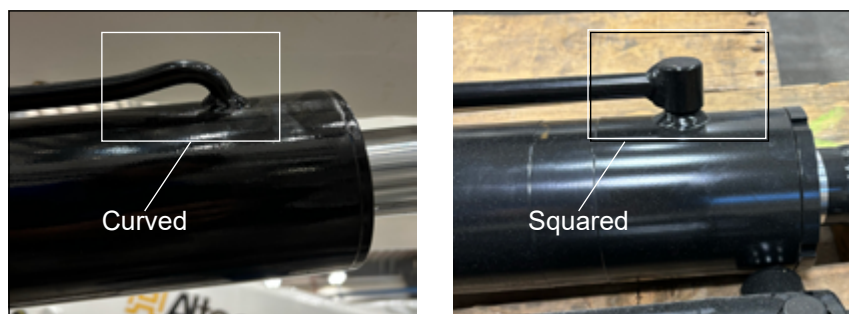

Figure 2 — Feeder Tube Shape
4. Determine the shape of the feeder tube (refer to Figure 2).